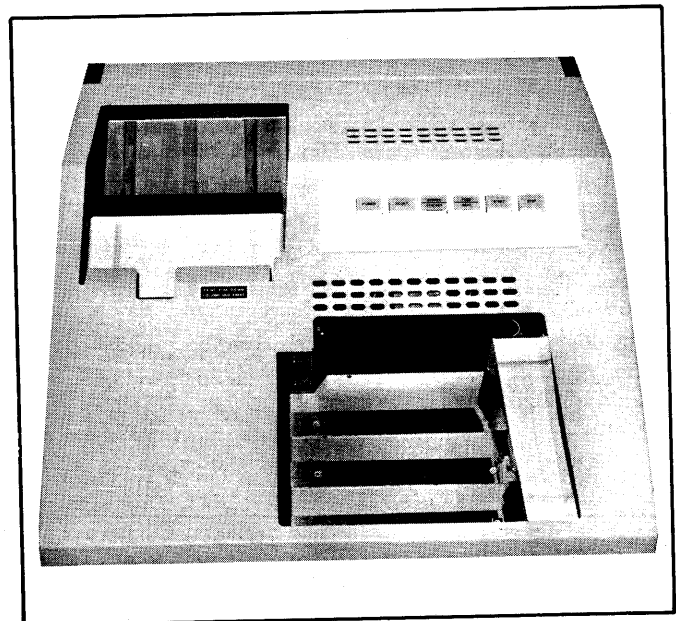

Figure 13. Models 7121/7122 Input Hopper and Output Stacker
1. Remove the card weight (and any card present) from input hopper (see Figure 13). Cards may remain in the output stacker provided it is not full (indicated by illumination of the STACKER light). Press the RESET switch to initialize the reader and clear fault conditions. The transport motor may start depending upon the position of the POWER switch.